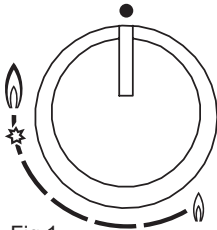

Fig.1
Turn the corresponding knob anticlockwise up to the maximum position (large flame, fig. 1) and press the knob.
If there is no power supply, it is possible to light the burners with matches, setting the knob to the start up point (large flame, fig. 1).
- When the equipment is not working, always check that the knobs are in the closing position (see fig.1)
- If the flame should blow out accidentally, the safety valve will automatically stop the gas supply, after a few seconds. To restore operation, set the knob to the lighting point (large flame, fig. 1) and press.